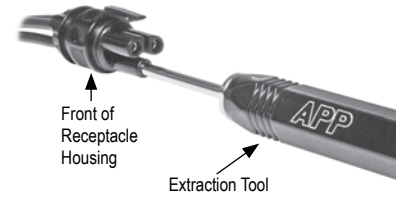

Figure 3b
• If necessary, contacts are released from the front side of the connector by using extraction tool PM1003G1 (See Figure 3b) and removed from the rear: